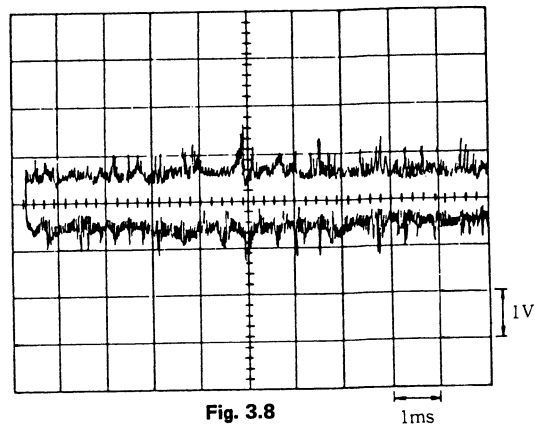

Fig. 3.8
- (1) Load the Philips Test Sample 5 test disc (non-scratched), observe the noise voltage on the voltmeter, and adjust VR103 so that the noise voltage on TP103 (Tracking) and TP102 (GND) is  $0.26V_{RMS} \pm 0.01V$  (Fig. 3.8).